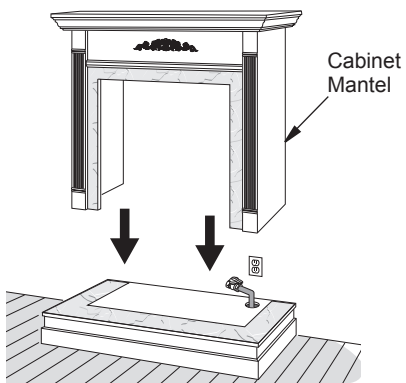

**Figure 9 - Placing Hearth Base Accessory Against Wall**
2. When installing blower, install a properly grounded, 120 volt three-prong electrical outlet at fireplace location if an outlet is not there. If possible, locate outlet so cabinet mantel will cover it when installed (see Figure 9).
4. Place hearth base accessory against wall at installation location. Cut an access hole in hearth top to run flexible gas line to fireplace (see Figure 9). Make sure to locate access hole so cabinet mantel will cover it when installed. *Note:* You can secure base to floor using wood screws. Countersink screw heads and putty over.